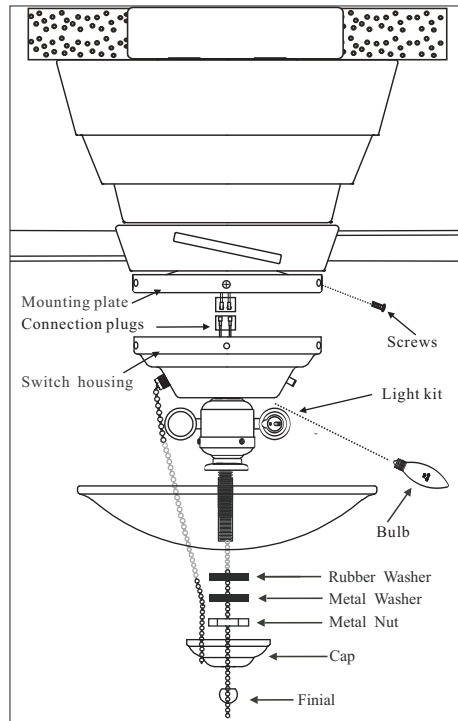

Figure 15
1. While holding the lightkit assembly under your fan, snap together the connection plugs.(Figure 15)
2. Carefully push all wires back into the switch housing, then install the light kit assembly onto the mounting plate with 4 screws previously removed in the process of installing the mounting plate. Be sure to tighten all screws. (Figure 15)
4. Install the glass shade, along with rubber washer, metal washer, with metal nut; install the cap, then twist the finial tightly. (Figure 15)